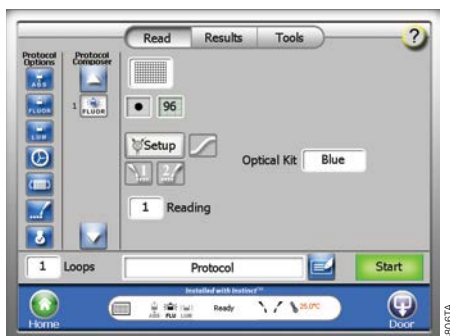

Figure 41. Defining a Fluorescence Plate Read.
1. From the Home screen, touch the “Instrument Control” button, and then the “Read” button (Figure 41).